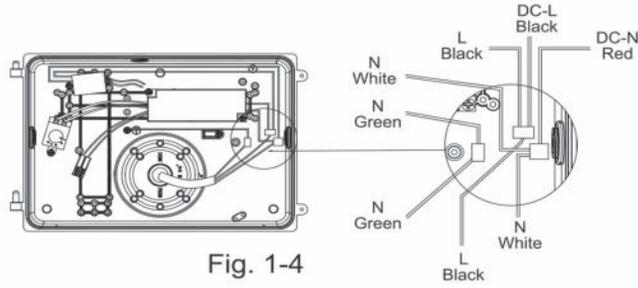

Fig. 1-4
4. Make wiring connections per "Electrical Connections" section and make sure the good wire protection. (Fig. 1-4)